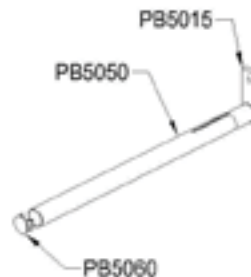

Figure 8
- A. Push on the mounting tube (part number PB5050) to the swivel (part number PB5015). See Figure 8. PB5060 is already assembled to tube.